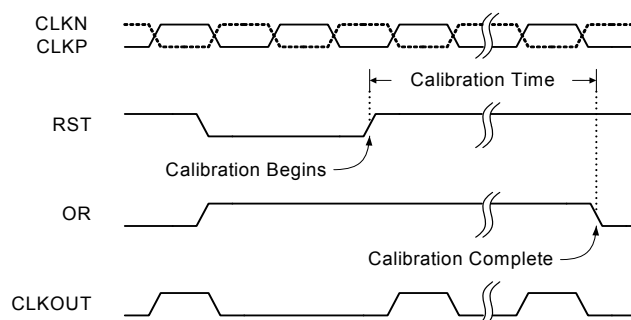

FIGURE 21. CALIBRATION TIMING
The calibration sequence is initiated on the rising edge of RST, as shown in Figure 21. The over-range output (OR) is set high once RST is pulled low, and remains in that state until calibration is complete. The OR output returns to normal operation at that time, so it is important that the analog input be within the converter's full-scale range in order to observe the transition. If the input is in an over-range state the OR pin will stay high and it will not be possible to detect the end of the calibration cycle.